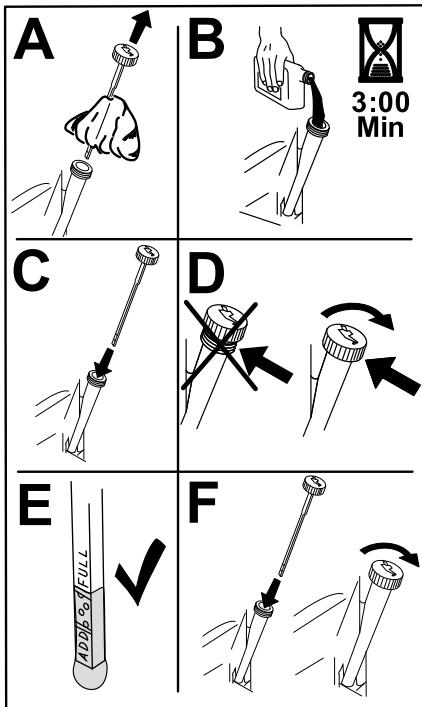

Figure 36
6. Slowly pour approximately 80% of the specified oil into the filler tube and slowly add the additional oil to bring it to the Full mark (Figure 36).